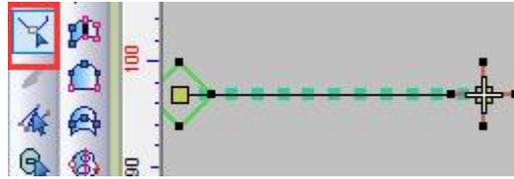

Figure 2
2. Click "Reshape" to see the starting and ending points (Figure 2).